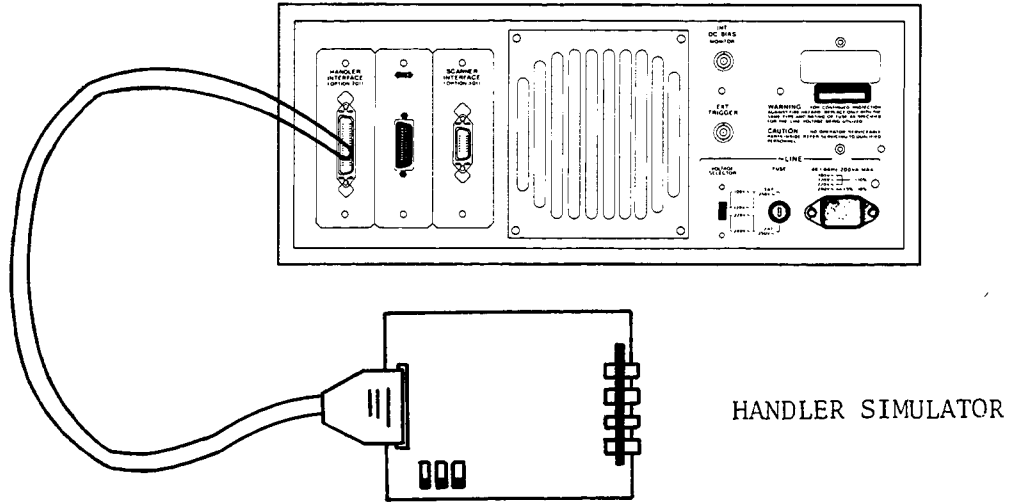

Figure 1-22. Handler Interface Function Test Set Up
11. Connect a cable from the handler interface connector on the HP 4285A's rear panel to the handler simulator as shown in Figure 1-22.